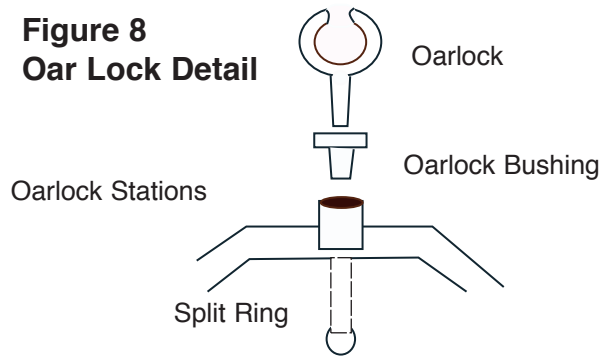

**Figure 6
2. Attach each Pontoon to frame using (4) Cam Lock Straps. Slip each strap through D-Ring on Pontoon, around frame and pull tight through Cam Lock Buckle. **NOTE:** Be sure the straps are pulled tight through the Cam Lock Buckles (see figure 6).